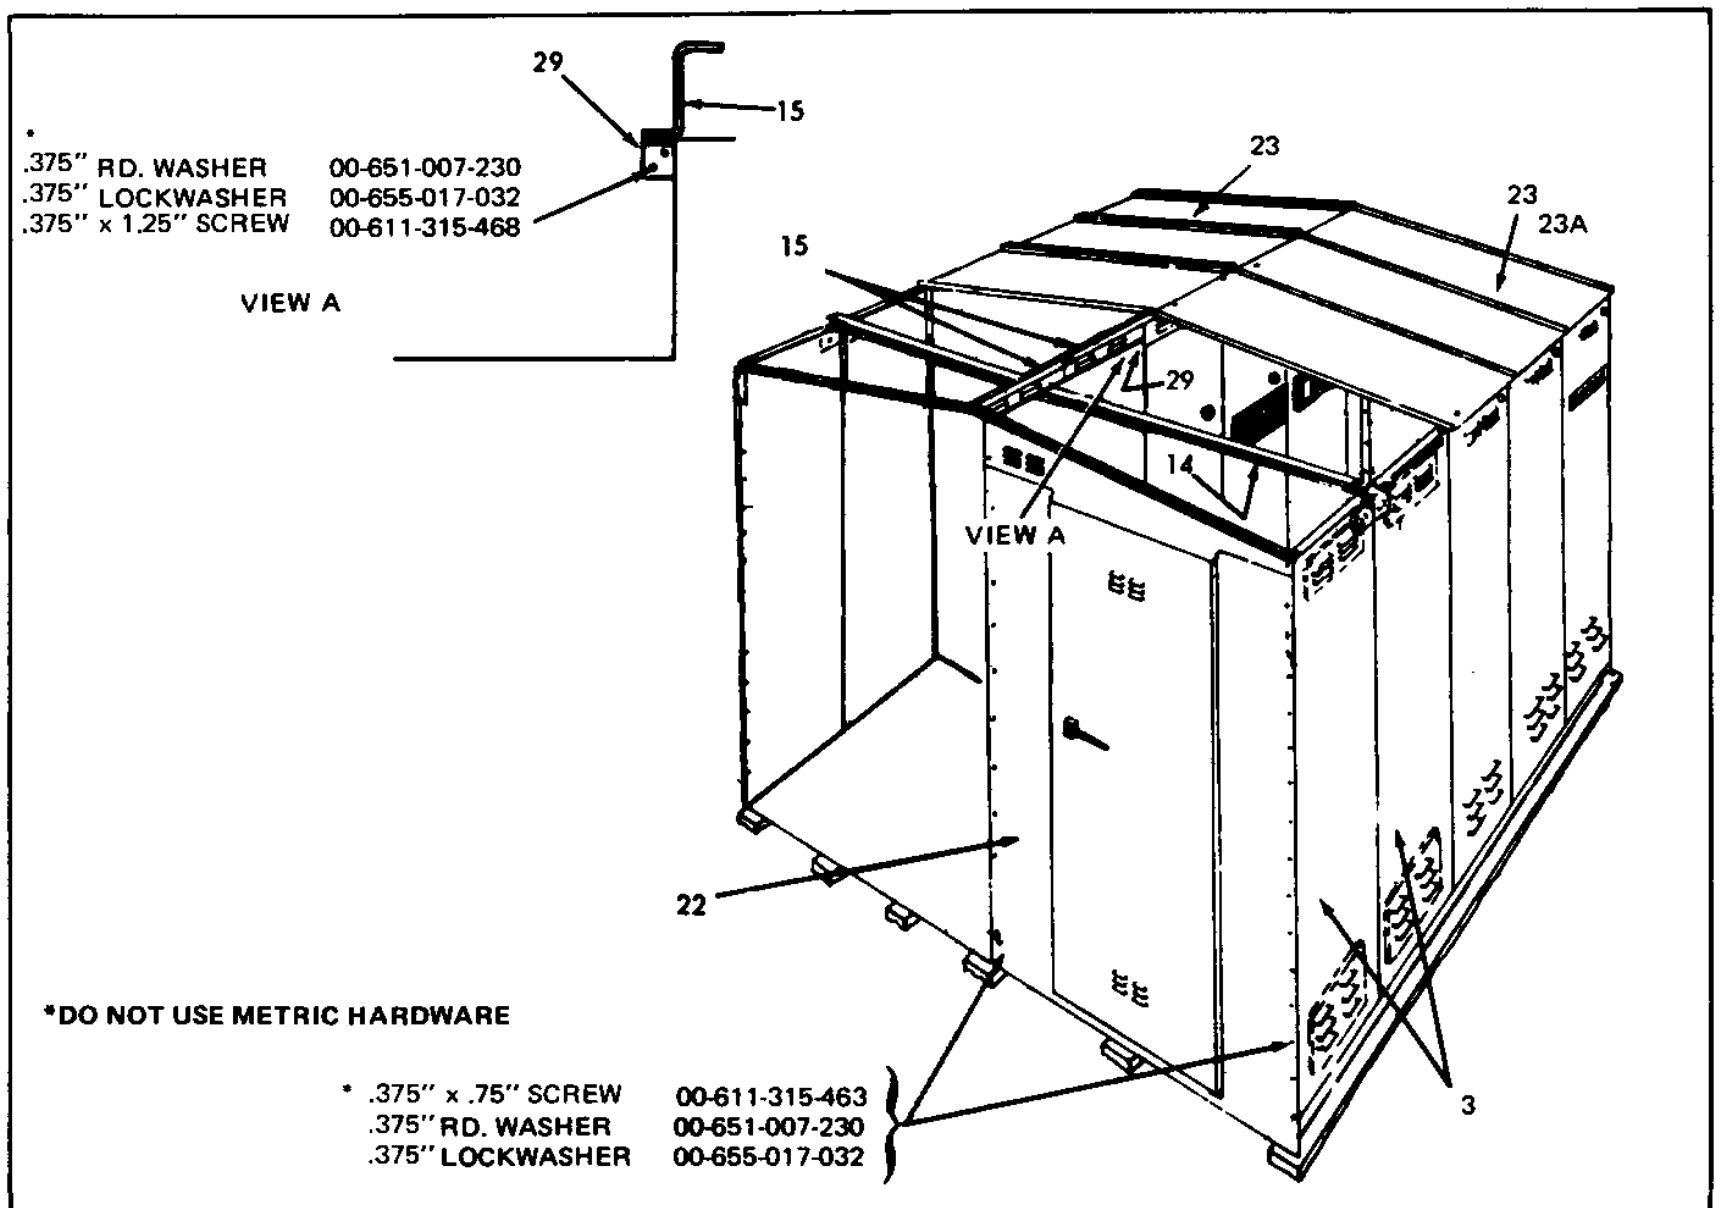

Figure 43. Door and Roof Support Installation (15 kV) – Single Aisle with Work Space
13. See Figure 43. Position and bolt the door frame assembly (22) into place. Apply .50-inch (12.7 mm) sealant tape so that one edge is on vertical centerline of mounting holes and other edge is toward point of weather exposure.